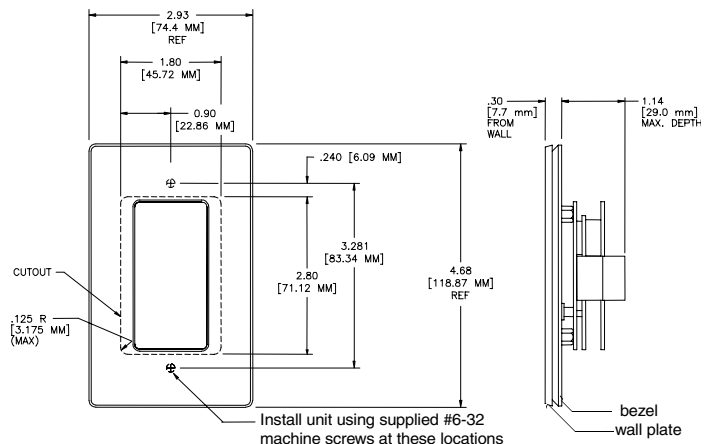

FIG. 8 AXD-IR+ Mounting Dimensions
1. For wall or podium mounting (FIG. 8), AMX recommends mounting the AXD-IR+ in a standard 1-gang wallbox with a minimum internal clearance of 1 3/4" (W) x 2 5/8" (H) x 1 5/8" (D).